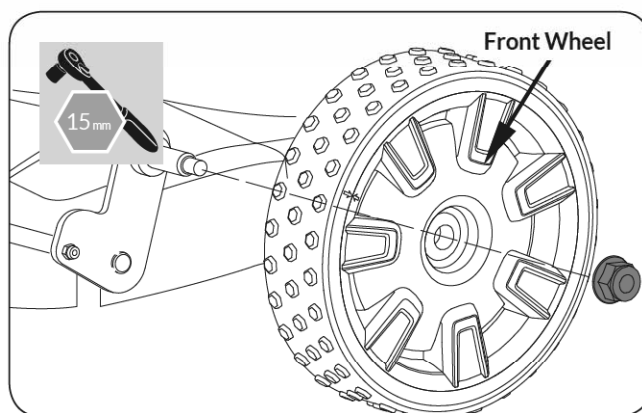

Figure 30
3. Assemble the new wheel with wheel nut. (See **Figure 30**)